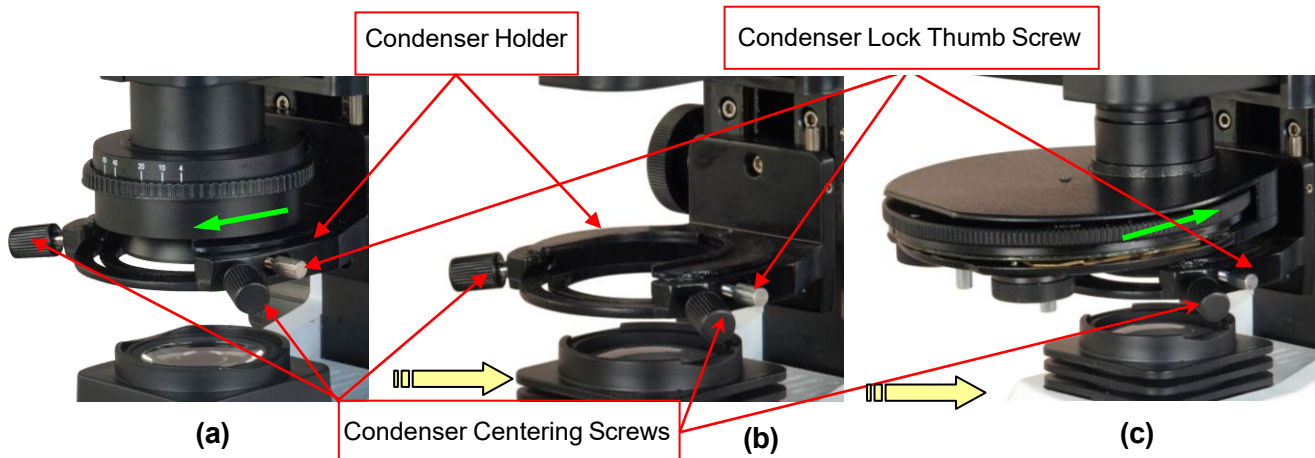

Fig.14
- d. Loosen the condenser lock thumb screw and remove the brightfield condenser as shown in **Fig. 14 (a)**.
- e. Insert the condenser/annular ring disk into the condenser holder, and tighten the thumb screw as shown in **Fig. 14 (c)**.